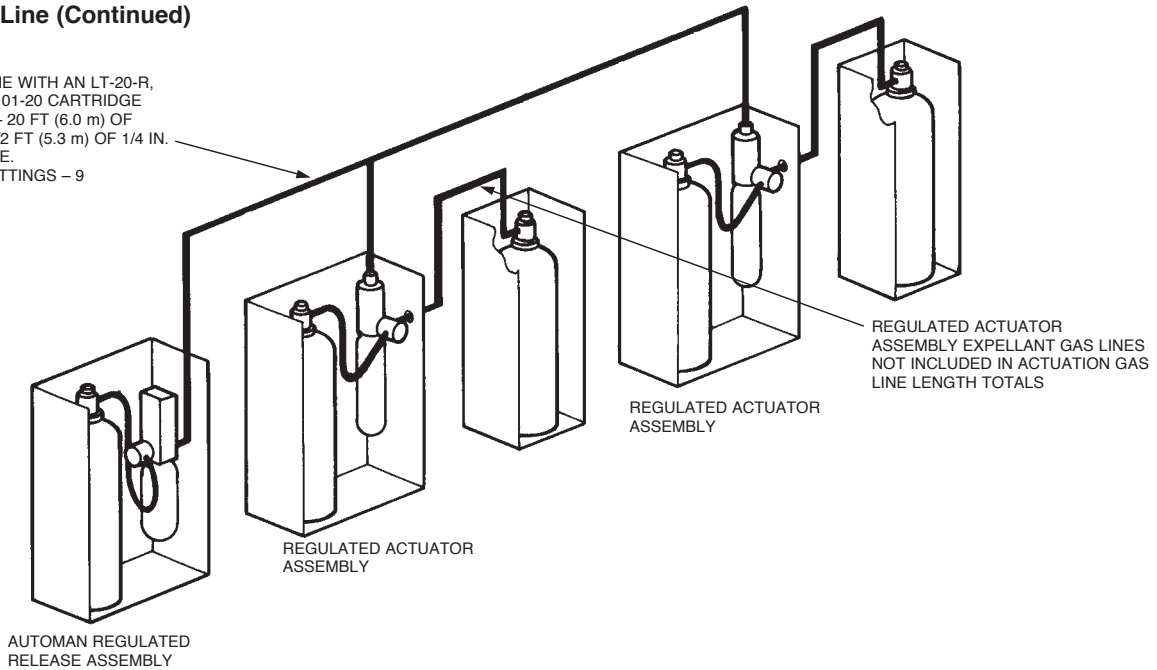

FIGURE 5-16
- ▶ 3. The total combined length of the 1/4 in. actuation gas line from the regulated release assembly to all regulated actuator assemblies must not exceed 20 ft (6 m) of 1/4 in. pipe or 17 1/2 ft (5.3 m) of 1/4 in. Stainless Steel (SS) actuation hose. When using an LT-20-R nitrogen cartridge, an LT-30-R nitrogen cartridge, a 101-10 CO₂ cartridge, or a 101-20 CO₂ cartridge. See Figure 5-16.